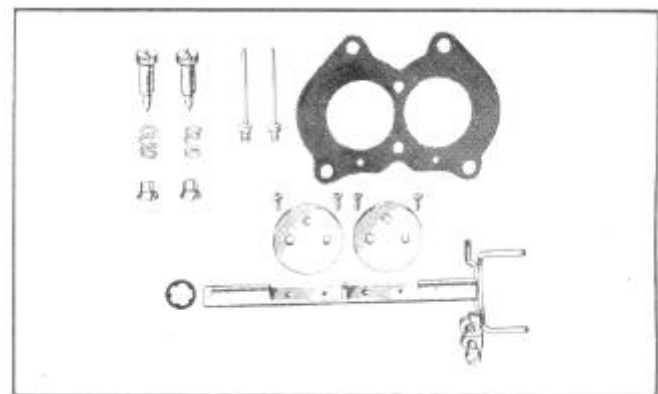

FIGURE 61
2. Group all parts controlling the idle operation, Figure 61.